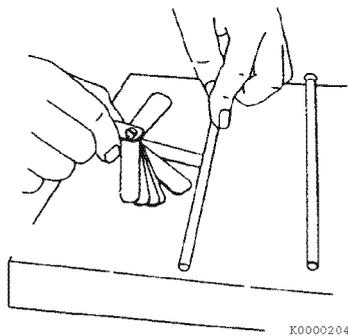

Figure 6-17
3. Use a feeler gauge to measure the gap (**Figure 6-17**). See *Push Rod* on page 6-6 for the service limit.